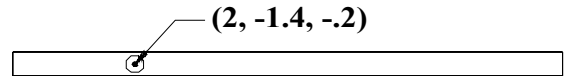

FIG. 1
Step 15. In the Side View, move cursor to coordinates **(2, -1.4, -.2)** and click for the center of the axle, **Fig. 1**.